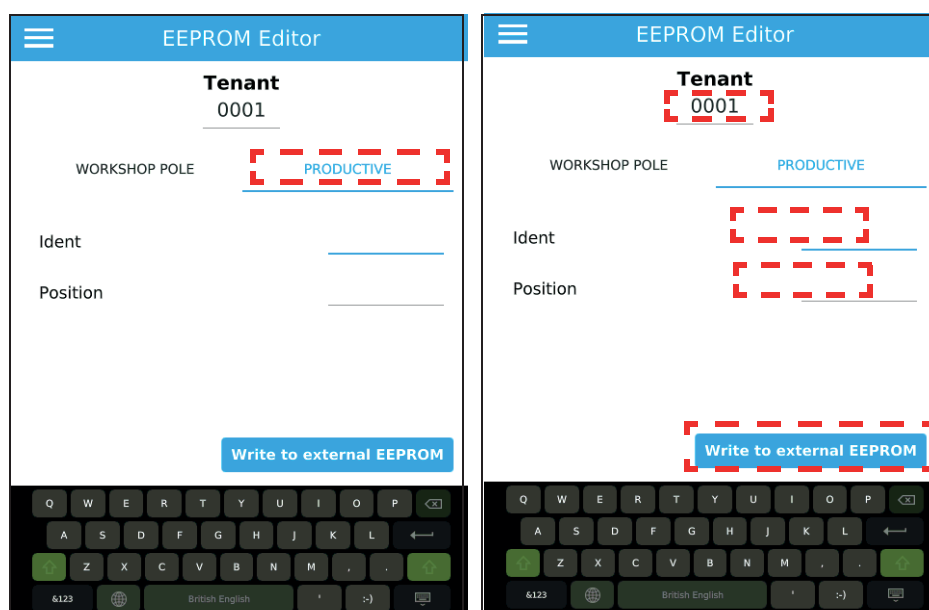

Figure 4-10 BAT - Program Productive EEPROM (Example)
Step 5 Select <PRODUCTIVE POLE> in the EEPROM editor, see **Figure 4-10**.
Step 7 Press the <Write to external EEPROM> button, see **Figure 4-10**.